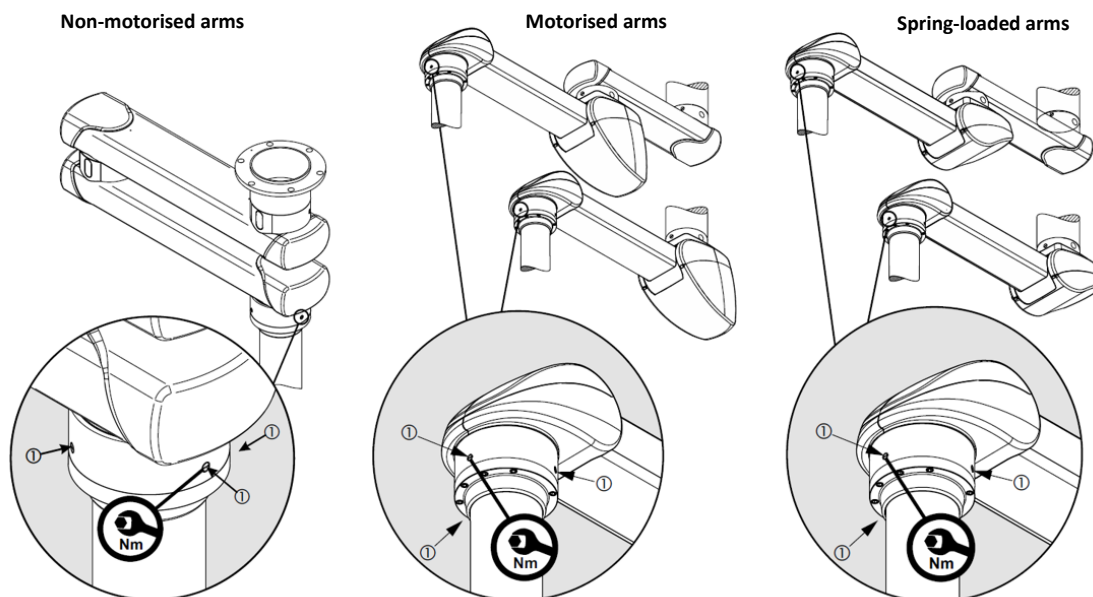

Fig.40 Friction brake adjustment on drop tube with bearing
When adjusting the end stop as illustrated in Figure 40, the dead centre area is 45°. This means that the spring arm (3) has a maximum range of movement of approx. 315°. If the minimum setting on the end stop is not defined while adjusting the brakes on the intermediate bearing (11) and the ceiling